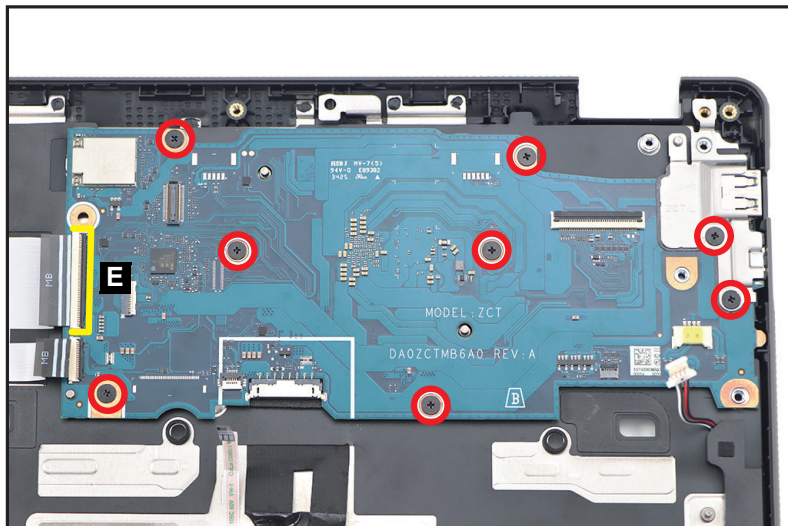

Figure 1-29. Mainboard Removal
5. Disconnect the I/O board (H) FFC from the mainboard connector (E) (Figure 1-29).
6. Remove eight (8) screws securing the mainboard and I/O bracket (Figure 1-29).